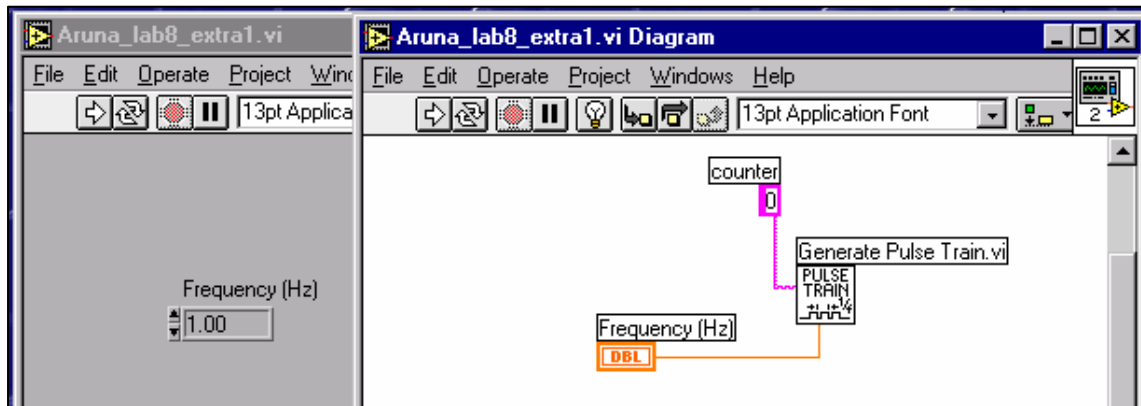

Figure 9
2. Build the VI shown in Figure 9.